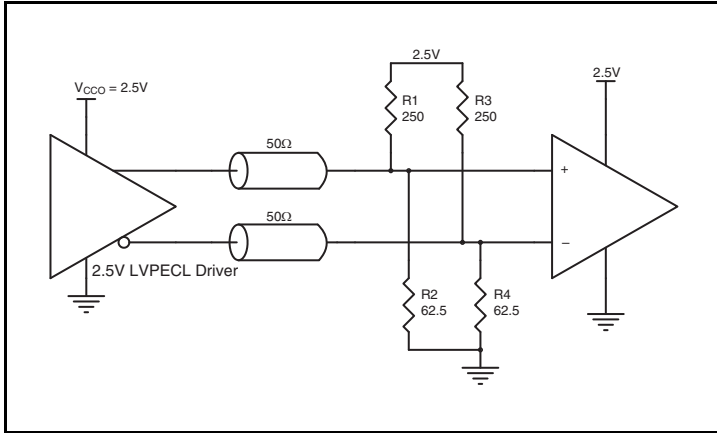
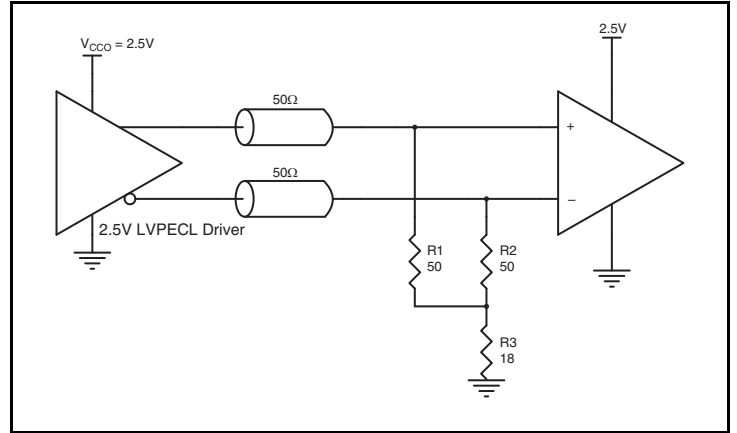
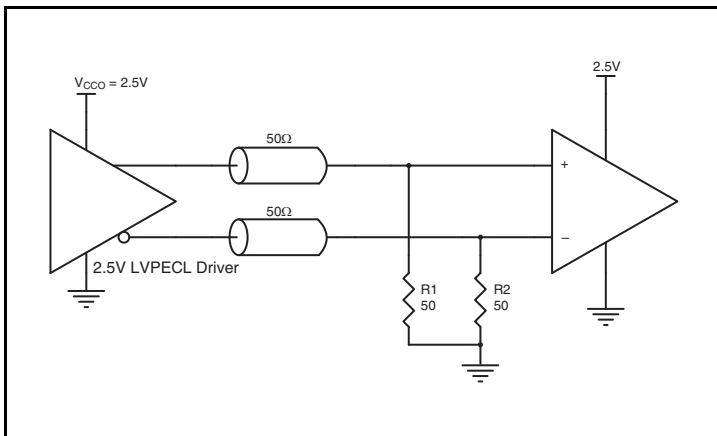

Figure 5A. 2.5V LVPECL Driver Termination Example
Figure 5B. 2.5V LVPECL Driver Termination Example
Figure 5C. 2.5V LVPECL Driver Termination Example
Figure 5A and Figure 5B show examples of termination for 2.5V LVPECL driver. These terminations are equivalent to terminating  $50\Omega$  to  $V_{CC0} - 2V$ . For  $V_{CC0} = 2.5V$ , the  $V_{CC0} - 2V$  is very close to
-LVCMOS ground level. The R3 in Figure 5B can be eliminated and the termination is shown in Figure 5C.